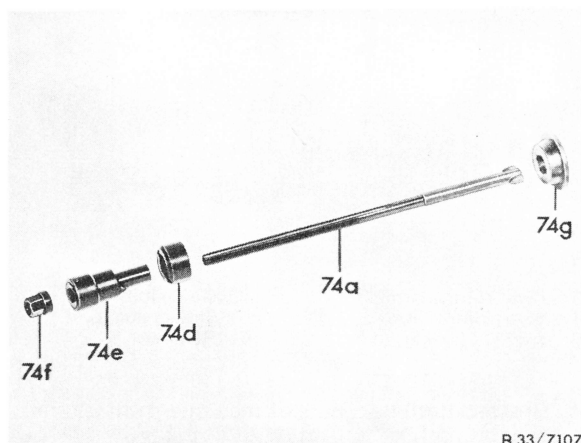

Fig. 1
If, for example when working on the lifting platform, the lower control arm cannot be supported, secure by inserting spring tensioner (74) (Fig. 1 and 2).
9 Connect brake pipe and brake hose to each other (Figs. 1 and 2).